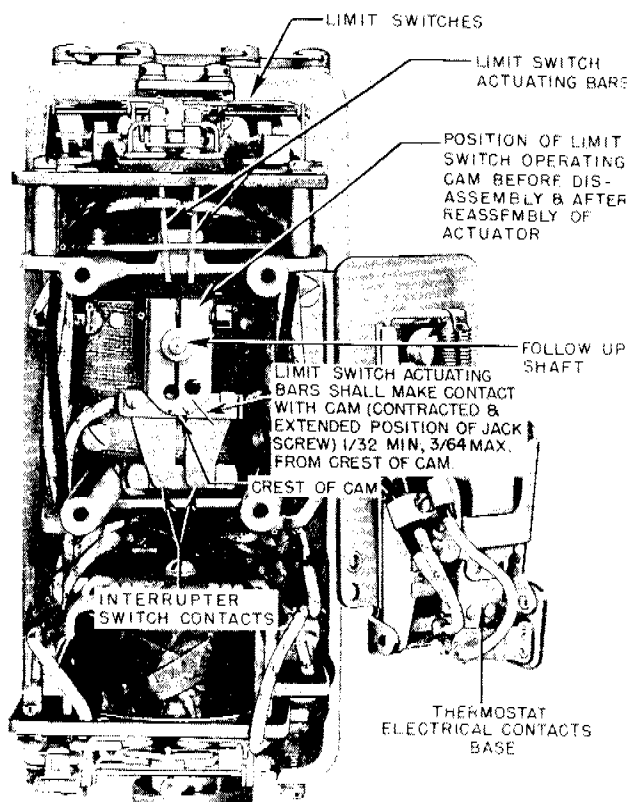

Figure 1 - Actuator Control Unit - Dust Cover
(1) The diastat mounting plate must be disconnected and moved over to one side. (See figure 1.) The limit switch operating cam should be positioned as shown in figure 1, prior to disassembly. This may be accomplished by energizing the motor through the plug connector on the actuator, using a power source of 24 volts. The connector pins are connected as follows: